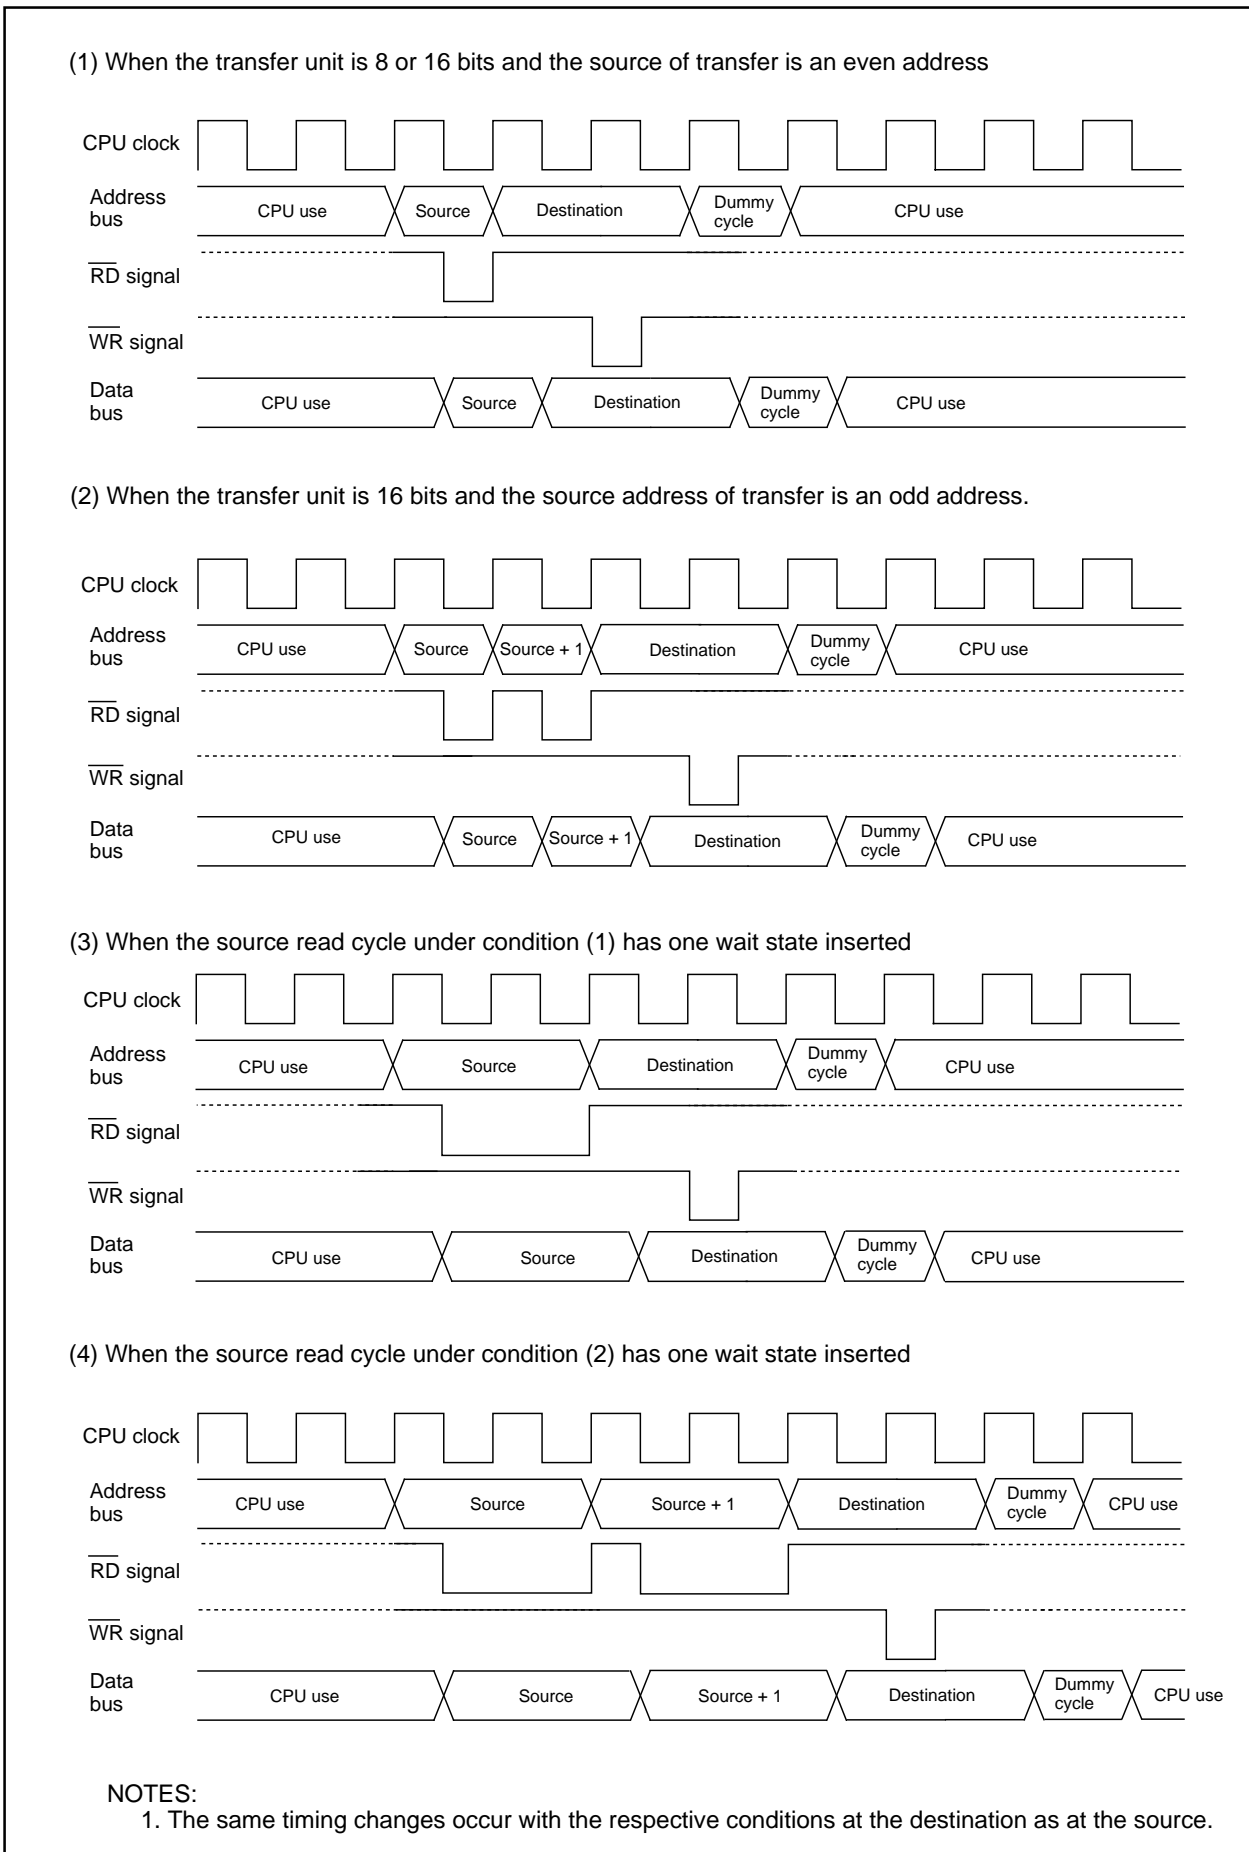

Figure 11.5 Transfer Cycles for Source Read
Figure 11.5 shows the example of the cycles for a source read. For convenience, the destination write cycle is shown as one cycle and the source read cycles for the different conditions are shown. In reality, the destination write cycle is subject to the same conditions as the source read cycle, with the transfer cycle changing accordingly. When calculating transfer cycles, take into consideration each condition for the source read and the destination write cycle, respectively. For example, when data is transferred in 16 bit units and when both the source address and destination address are an odd address ((2) in **Figure 11.5**), two source read bus cycles and two destination write bus cycles are required.